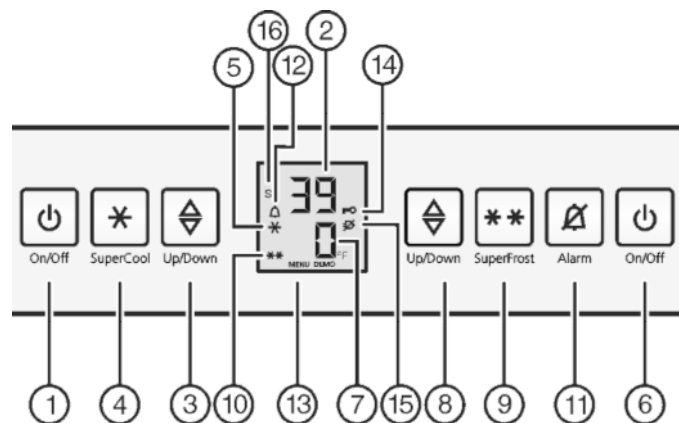

Fig. 3
- ▶ Press the freezer compartment On/Off button *Fig. 3 (6)*.
- ▶ Press the refrigerator compartment On/Off button *Fig. 3 (1)*.
- ▶ Activate setting mode: Press SuperFrost button *Fig. 3 (9)* for about 5 seconds.
- ▷ The Menu symbol *Fig. 3 (13)* lights up.
- ▶ Use the Set freezer compartment button *Fig. 3 (8)* to select °.
- ▶ To confirm: Briefly press SuperFrost button *Fig. 3 (9)*.
- ▶ Select °F oder °C with the Freezer compartment set button *Fig. 3 (8)*.
- ▶ To exit setting mode: Press Freezer compartment On/Off button *Fig. 3 (6)*.
- ▶ To activate setting mode: Press and hold the SuperFrost button *Fig. 3 (9)* for approx. 5 seconds.
- ▷ In the display, the Menu Symbol *Fig. 3 (13)* is displayed.
- ▶ Use the Set freezer compartment button *Fig. 3 (8)* to select **c**.
- ▶ Confirm briefly by pressing the SuperFrost button *Fig. 3 (9)*.
- ▷ The Child Safety symbol *Fig. 3 (14)* lights up on the display.
- ▶ Press the freezer compartment On/Off button *Fig. 3 (6)* briefly.